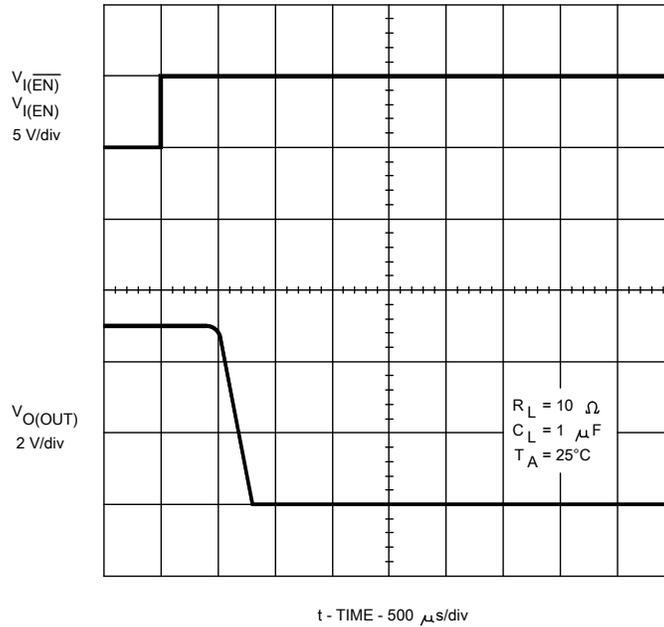

FIGURE 6. Turn-Off delay and fall time with 1 μF load.
3.5.6 Turn off delay and fall time with 1 μ F load. The turn off delay and fall time with 1 μ F load shall be as shown in figure 6.